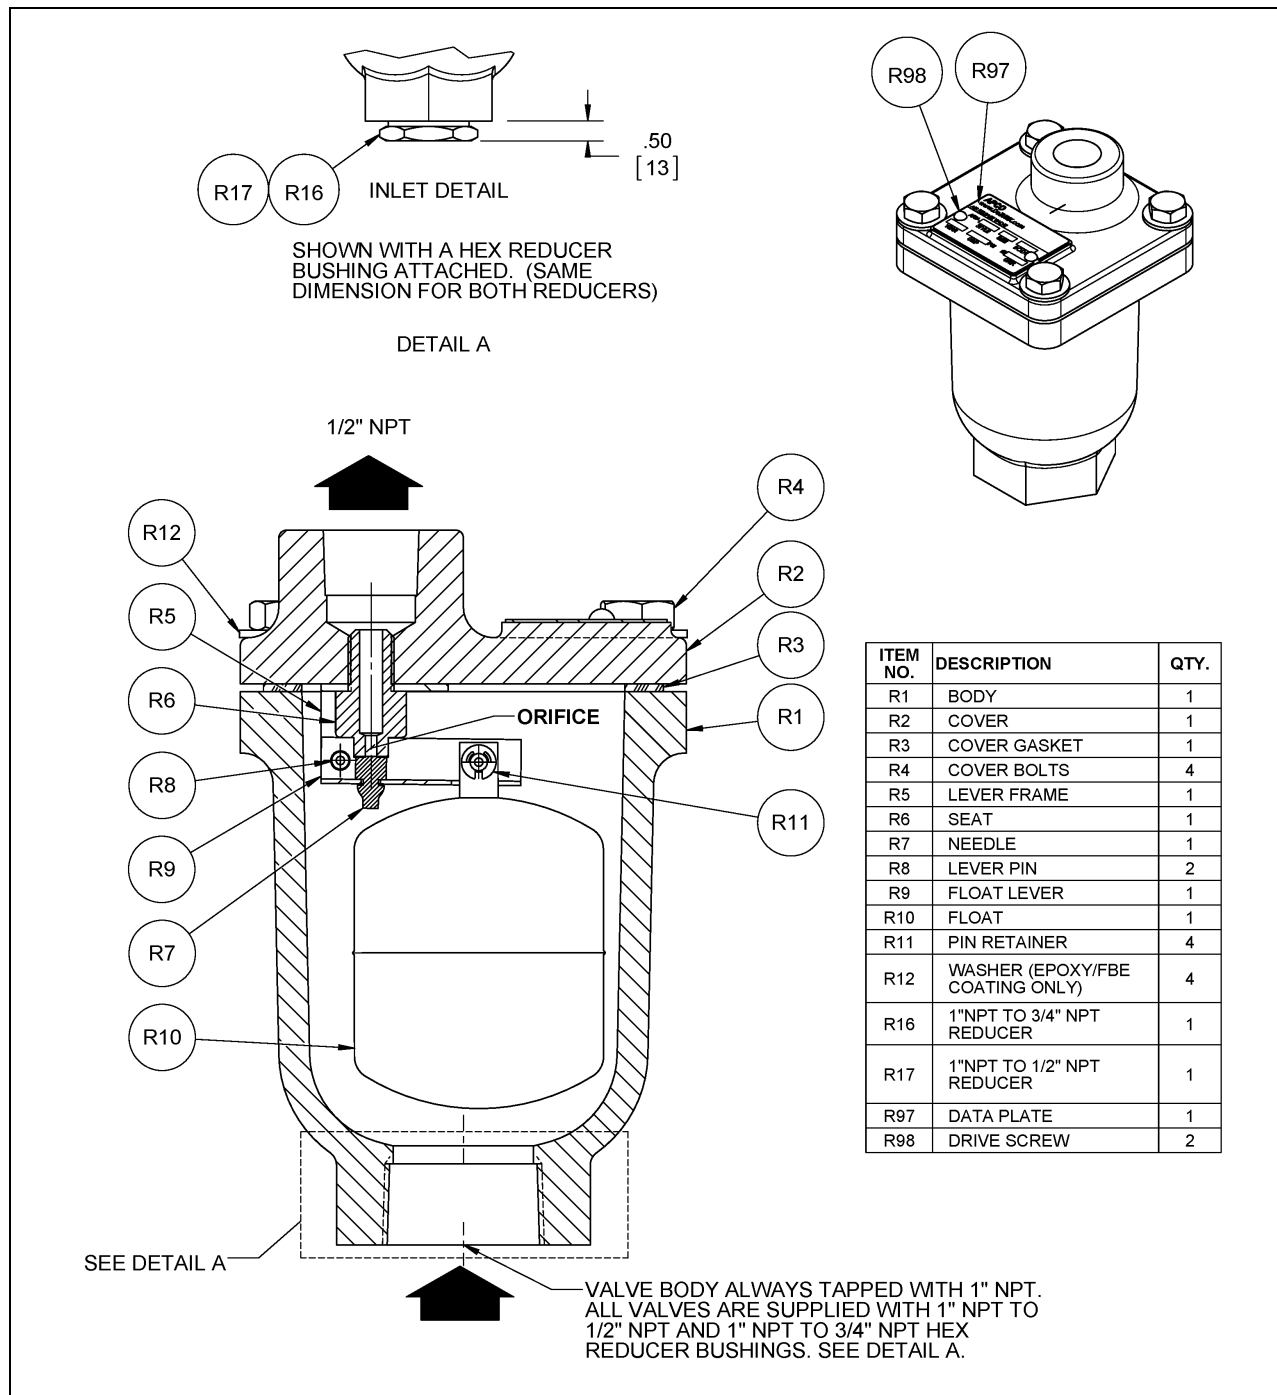

Figure 1: ARV-50A Clean Water Air Release Valve
- The ARV-50A valve is supplied standard with a 1" NPT female tap on body. If a 3/4" or 1/2" NPT female connection is desired, a reducer bushing should be used. Included in the box is a 1" NPT male to 3/4" NPT female and 1" NPT male to 1/2" NPT female hex reducer bushing. Install the male 1" NPT thread into the body as shown in Figure 1 using a thread sealant.
See Figures 1 thru 8 for part identification.